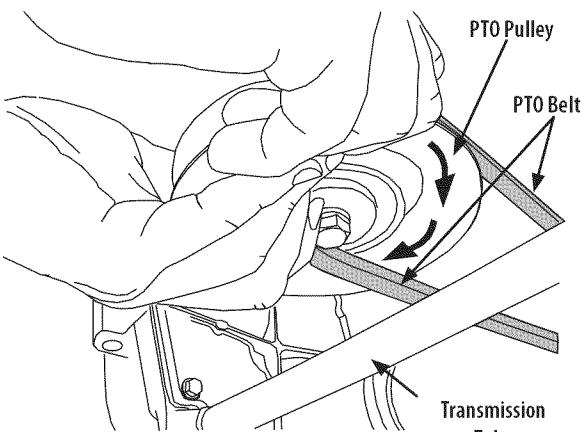

Figure 26
- While still holding the belt downward, continue turning the PTO pulley until the belt is rolled off the pulley. Refer to Figure 26.
11. Pull the right side of the belt rearward and place the narrow V side of the belt into the PTO pulley. See Figure 26.
12. While holding the belt and pulley together, rotate the pulley to the left (See Figure 26). Continue holding and rotating the pulley and belt until the belt is fully rolled into the PTO pulley.